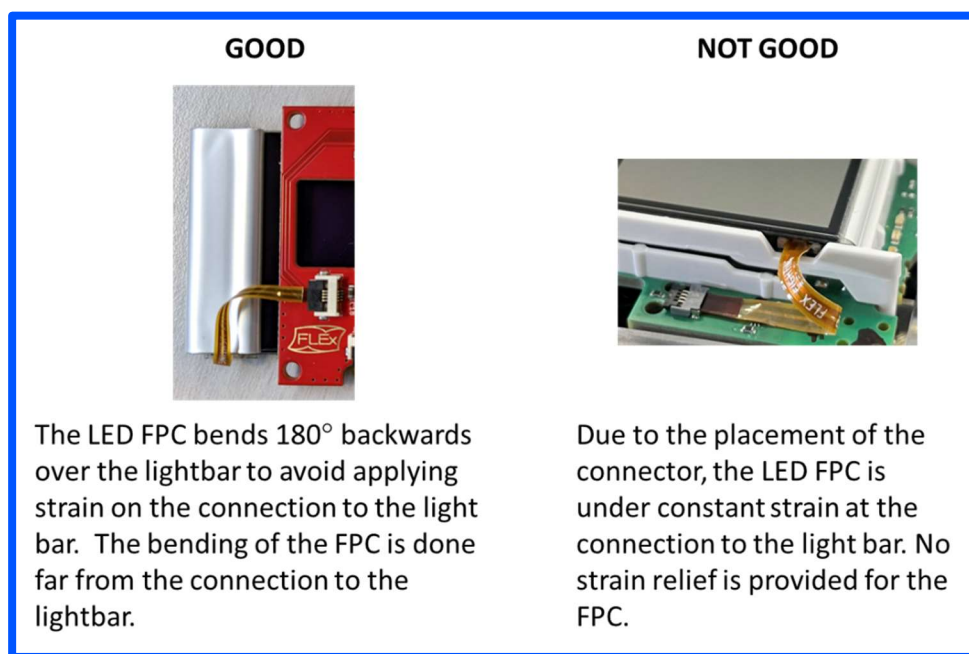

Figure 16. Recommended connector layout and routing for LED FPC.
5. When designing a connector layout for the LED FPC, avoid routing the LED FPC in such a way that produces strain at the lightbar connection. It is recommended to provide the LED FPC ample strain relief as close to the light bar connection as possible. Refer to Fig. 16.